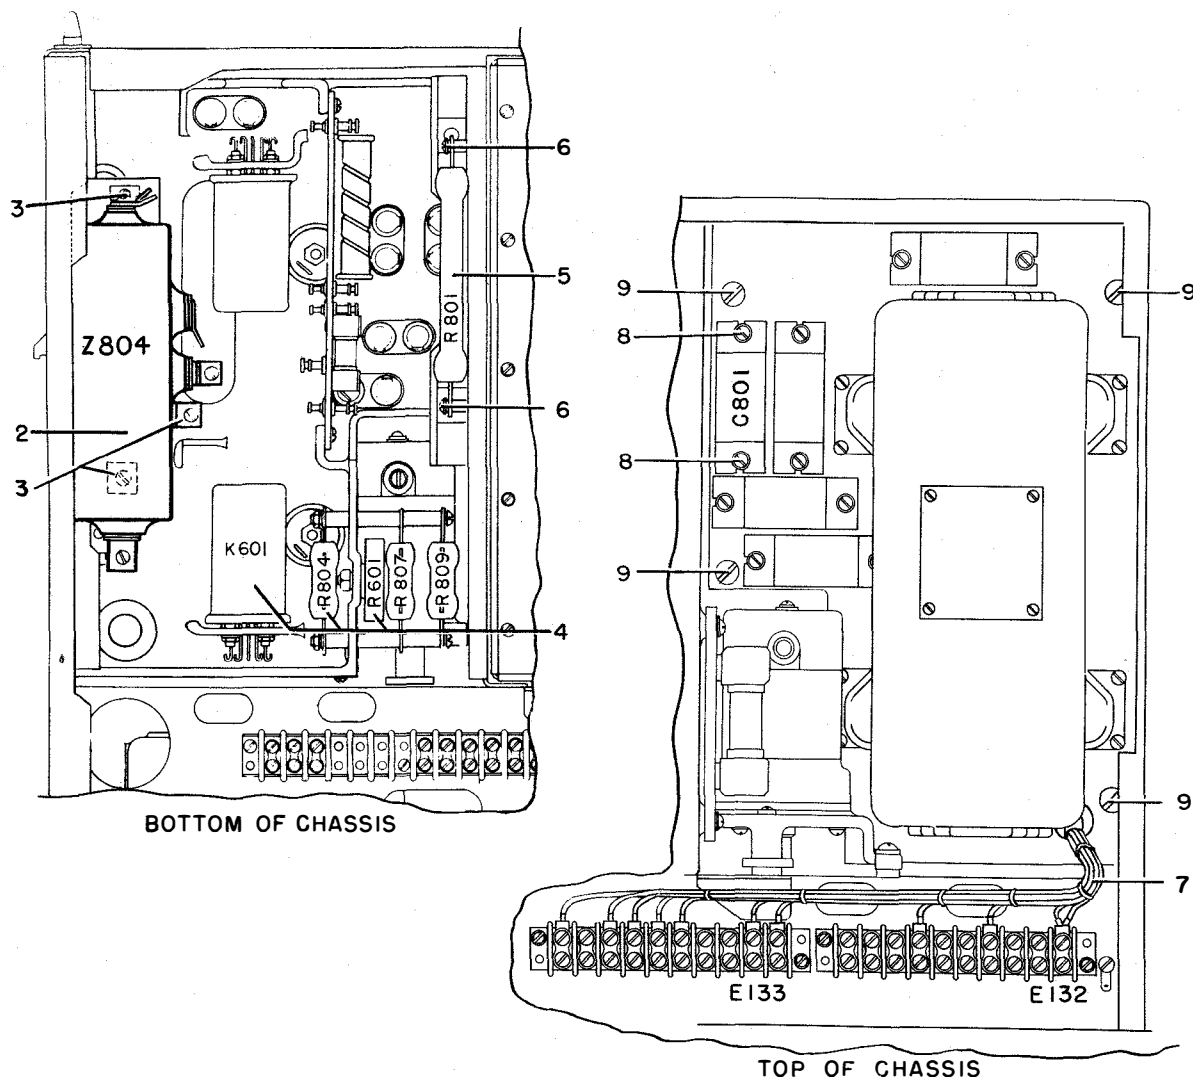

Figure 7-29. Steps in Dismounting Dynamotor Section
Step 2. Unsolder and disconnect the leads to the filter (2), Figure 7-29, Z804, mounted in the bottom of the dynamotor section.
Step 3. Remove the three screws (3) that hold Z804 in place from the top of the section and remove the filter assembly.
Step 4. Disconnect the wires (7) indicated in Figure 7-29 from terminal boards E132 and E133 on top of the selector mechanism.
Step 5. Unsolder selector motor leads (4) yellow, black and white. Tag these leads.
Step 6. Unsolder leads (6) to R801 (5), mounted on the shield adjacent to the unit. Tag these leads.
Step 7. Loosen screws (8) holding C801 but do not remove.
Step 8. Remove four screws (9) holding dynamotor unit to receiver chassis.